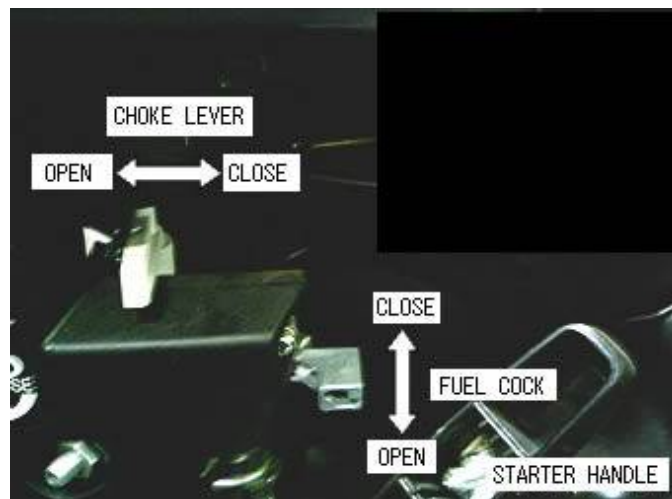

Figure 4-3
2. Move the fuel valve lever (Figure 4-3) to the "ON" position.
3. Close the CHOKE LEVER (Figure 4-3). If the engine is cold or the ambient temperature is low, close the Choke Lever fully. If the engine is warm or the ambient temperature is high, open the Choke Lever half-way, or keep it fully open.
5. Pull the STARTER HANDLE (Figure 4-3) of RECOIL STARTER slowly until resistance is felt. This is the "COMPRESSION" point. Return the Handle to its original position and pull swiftly. After starting the engine, allow the Starter Handle to return to its original position while still holding the Handle.
After the engine starts, allow it to run at the low speed and warm it up without load for about five minutes. Fully open CHOKE LEVER (Figure 4-3) gradually.
5. Move fuel cock (Figure 4-3) to the "CLOSE" position.